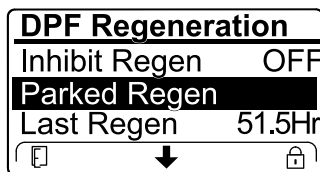

Figure 49
- If the engine computer requests a recovery regeneration or is processing a recovery regeneration and you scroll down to the PARKED REGEN option, parked regeneration locks and the lock icon (Figure 49) appears in the lower right corner of the InfoCenter.